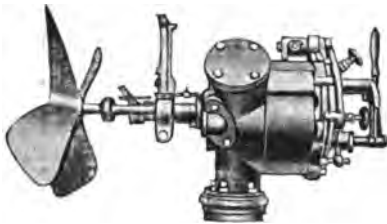
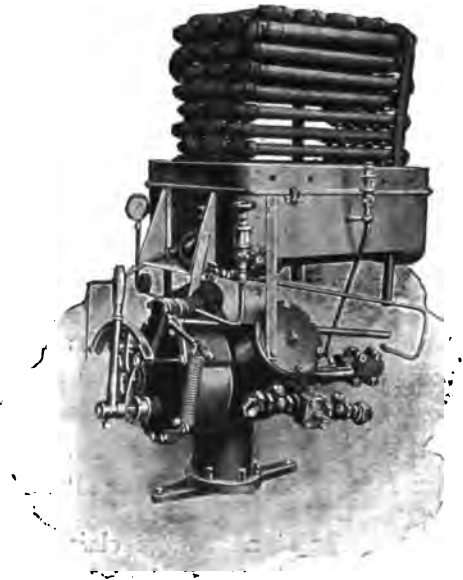

FIG. 84.
FIG. 85.
Fig. 84 shows the engine connected to the propeller, and Figs. 85 and 86 show the boiler and machinery complete, which, as will be seen, is of a very compact and neat appearance, and consists of a small three-cylinder engine placed below a tubular boiler. The cylinders are placed 120° apart, so that there is no dead point, and the engine can be reversed at once when running full speed. The chief advantages claimed for the use of alcohol inside the boiler, as compared with naphtha or petrol, are (1) that alcohol produces more vapour from a given quantity of heat, and consequently does